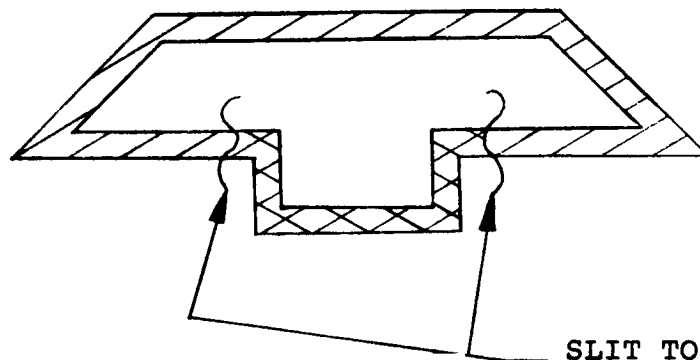

FIGURE 1
4. Remove back strip of vinyl insert by slitting as shown in Figure 1.